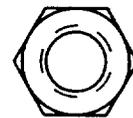
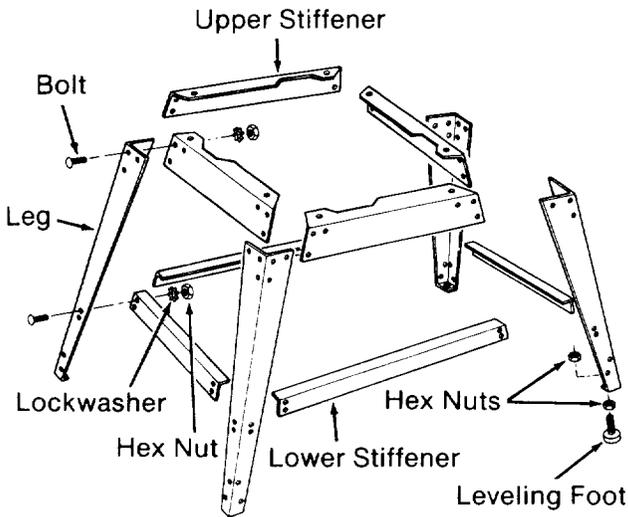

Fig. 32 - Hex Nut for Leveling Foot
Fig. 33
1. Attach the four (4) *legs* to the four (4) *upper stiffeners* as shown. Three (3) truss head bolts, washers, and nuts are required to fasten each end of *upper stiffener* to a *leg*. Hand tighten hex nuts. (Figure 33)
2. Attach the four (4) *lower stiffeners* to the *legs*. Two (2) truss head bolts, washers and nuts are required to hold each end of a *lower stiffener* in place. Hand tighten hex nuts.
4. Put a hex nut on each of the *leveling feet*. (Figure 32)